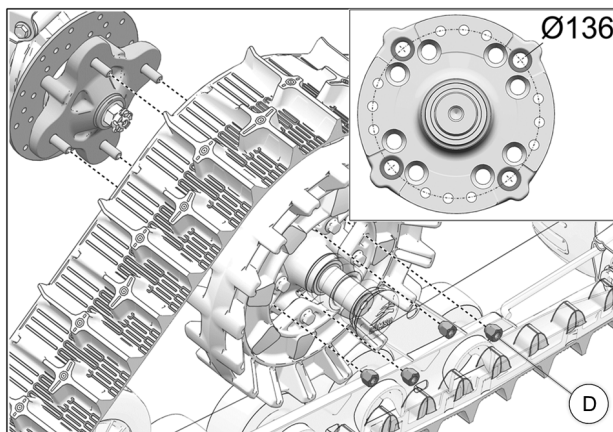

Fig. 10
9. Secure undercarriage to rear hub using the provided M12 lug nuts (D). Use bolt circle Ø136 mm. See Fig. 10
7. Using the provided M12 lug nuts (D), secure undercarriages to the front wheel hubs. The procedure and precautions are the same as for rear units. Refer to Fig. 10